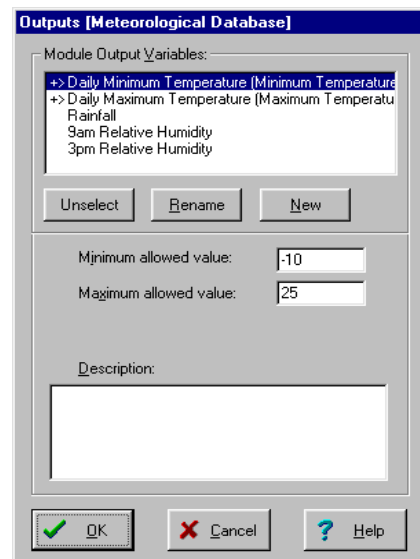

Figure 3.2 Outputs (Meteorological Database) Variables List Box
15. Select **'Outputs'** to produce the **'Outputs(Meteorological Database)'** selection window (figure 3.2);